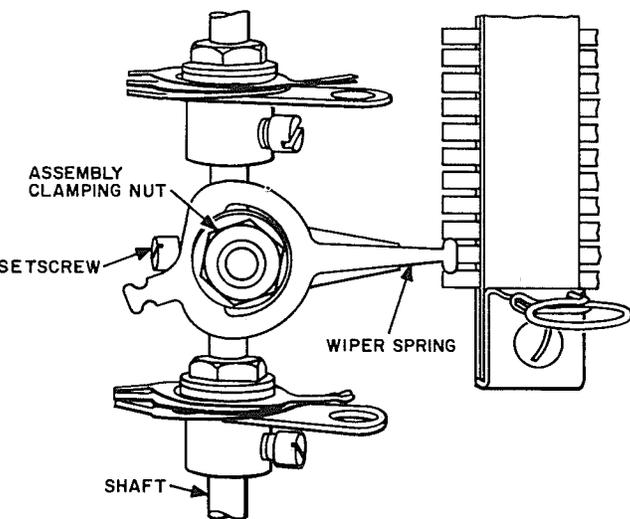

Fig. 14—Commutator Wiper Alignment
(1) Where commutator wiper springs are assembled to the hub with an assembly clamping nut, as shown in Fig. 14, align the commutator wiper horizontally as follows. Loosen the assembly clamping nut with the 417A wrench and move the tip of the wiper spring up or down until the center line of the spring is at right angles to the shaft. Then tighten the clamping nut securely. On the later type of commutator wipers, the position of the wiper spring with respect to the hub is not adjustable; therefore, where the wiper is not in proper horizontal alignment, replace the wiper as covered in Section 030-705-804.